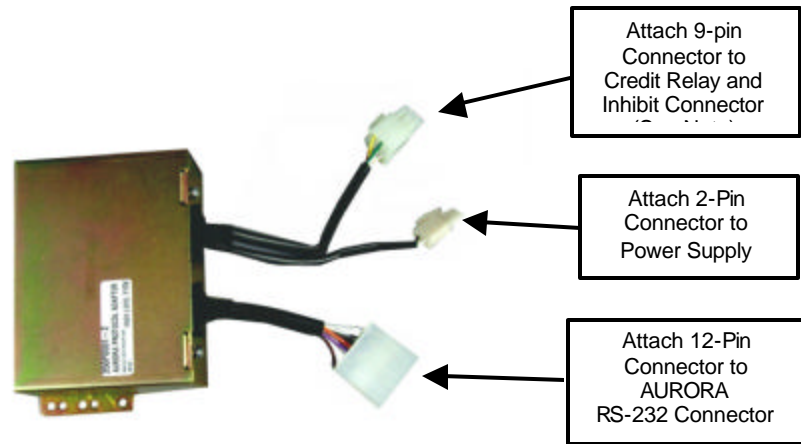
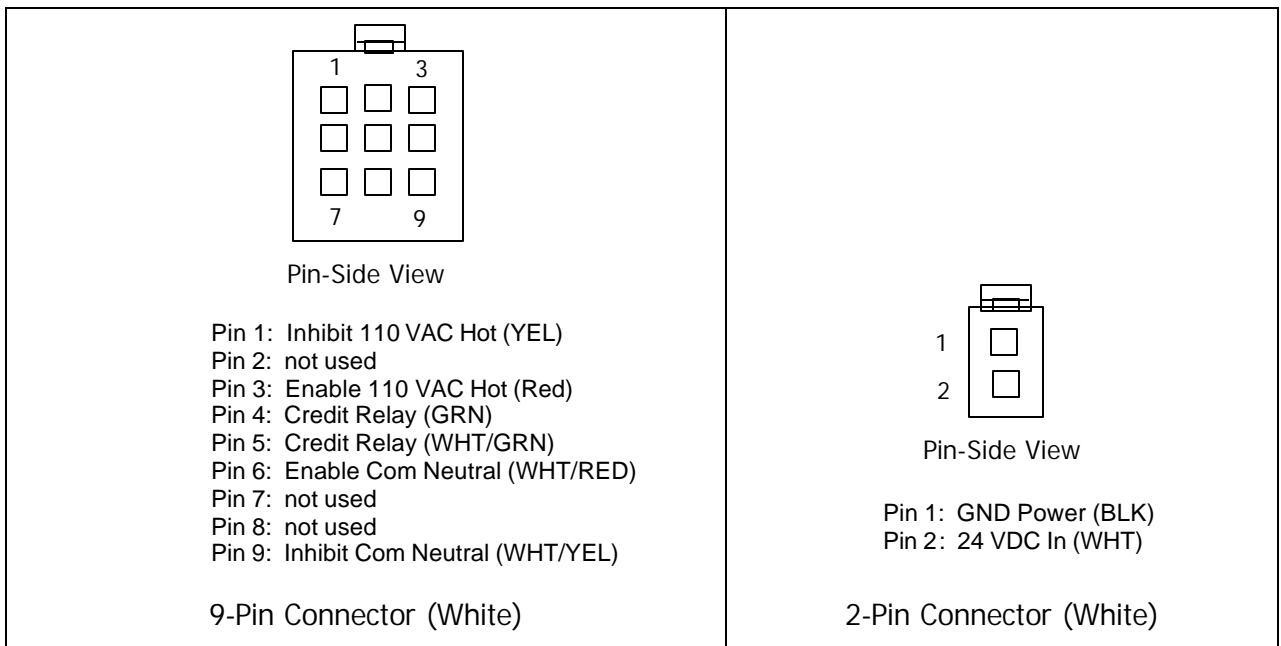

Figure 5. 110/220 VAC High-Level Pulse Protocol Adapter Assembly — Cable Connections
Figure 6. Connector Pin Assignments for 110/220 VAC High-Level Pulse Protocol Adapter Assembly
- b. For 110/220 VAC/DC High-Level Pulse Protocol Adapter, make the connections in **Figure 5**; for connector pin assignments, refer to **Figure 6**.